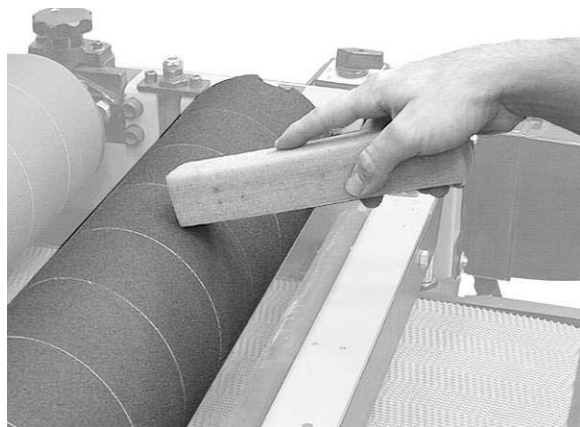

Figure 19
2. Use a 1/8" hex wrench to loosen the *setscrew* (A, Fig. 19) between 1/4 and 1/2 turn.
- ☐ With the machine on and the drums rotating, clean sawdust from the abrasive strips with a cleaning stick (Fig. 19). This item is available as an accessory (stock no. 57620025, JS-1 JET-Stick Belt Cleaner).